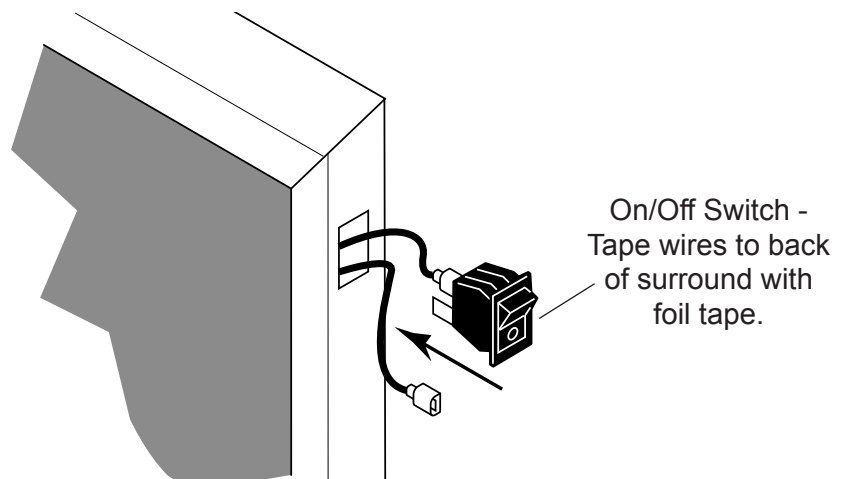

Figure 28 - Installing On/Off Switch
2. Insert switch into hole in upper right side of the trim. *See Figure 28.*
3. Reattach wires. *See Figure 28.*